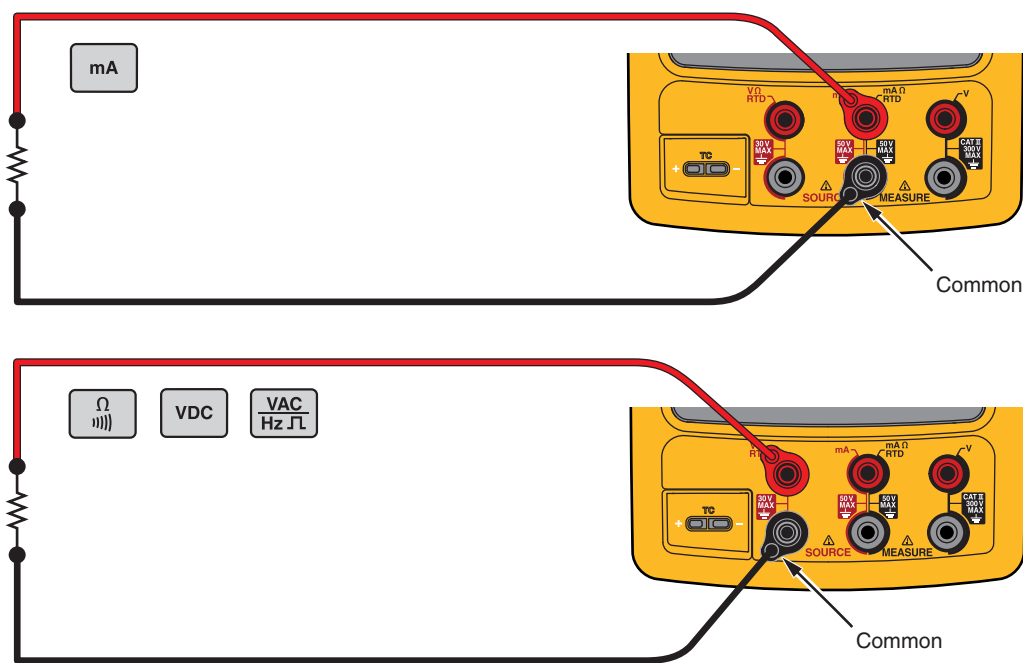

Figure 18. Electrical Source Connections
1. Connect the test leads as shown in Figure 18, depending on the source function.